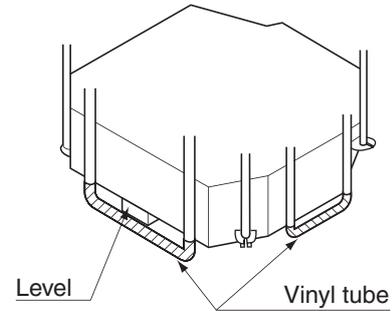

Fig. 9
- Using the Installation guide (15) allows you to check the positions from the underside of the unit to the lower ceiling surface.
- (4) Check the level of the unit. (Refer to Fig. 9)
- (5) Remove the washer clamp (7) used for preventing the washer for hanger (3) from dropping and tighten the upper side nut.
- (6) Remove the installation pattern paper (5).